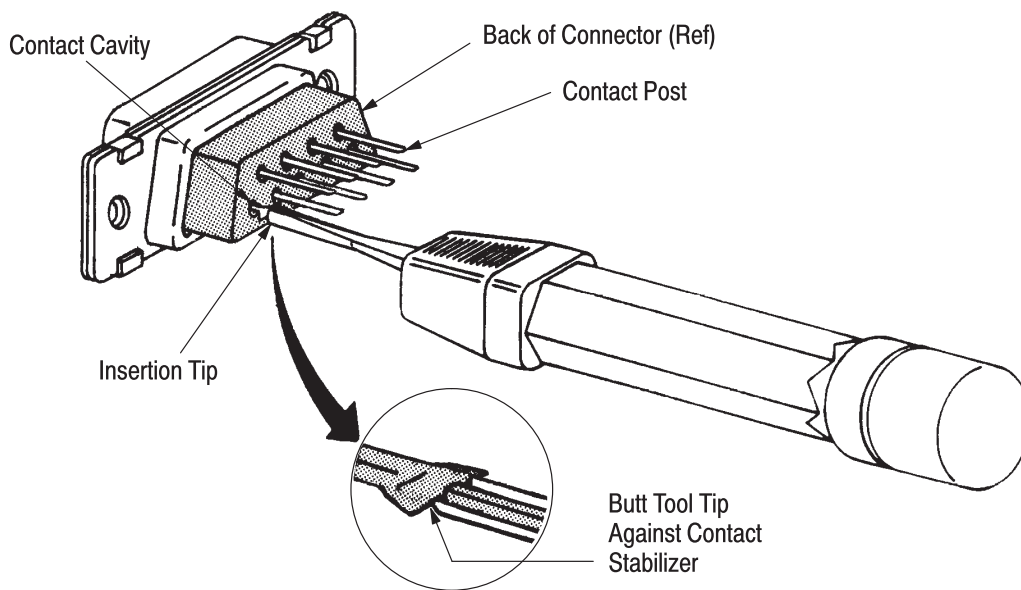

Figure 5
**4.3. Inserting A Posted Contact** (Figure 5)
2. Position the tip over the contact post. Move the tool along the post until the tip butts against the contact stabilizer. Align the tip on the stabilizer as shown in Figure 5.